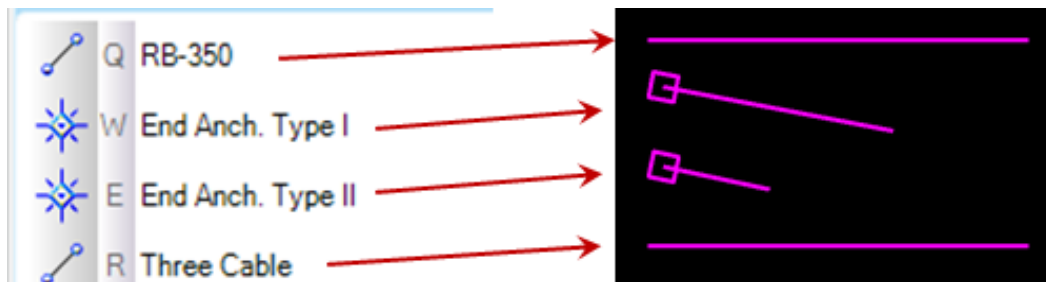
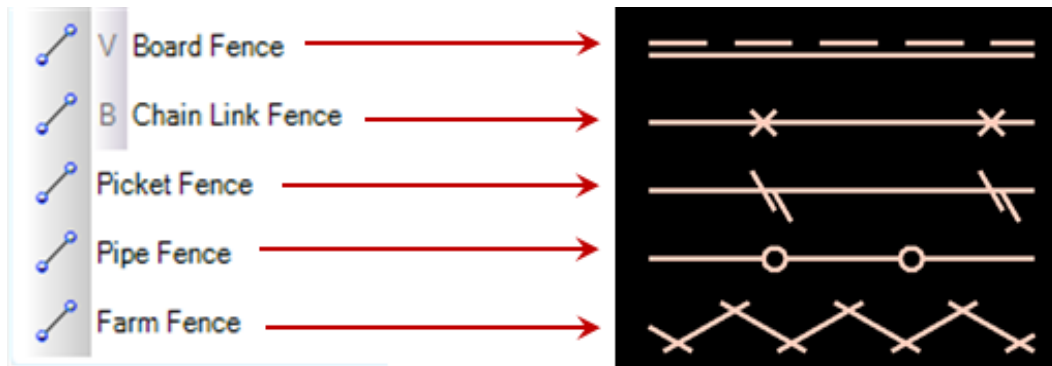

Figure 23 - Safety Tasks
Figure 24 - Fence Tasks
The engineer uses the CT-DOT Highway Design Manual and AASHTO Roadside Design Guide to designs the guiderail needed and uses the tasks to place the guide rail (Figure 23). Fences are placed by the designer where needed invoking the various fence tasks (Figure 24).
- A. **Safety tasks** consist of the **Place SmartLine** commands  or the **Place Active Cell** commands . Shown below are a few of the tasks (Figure 23).